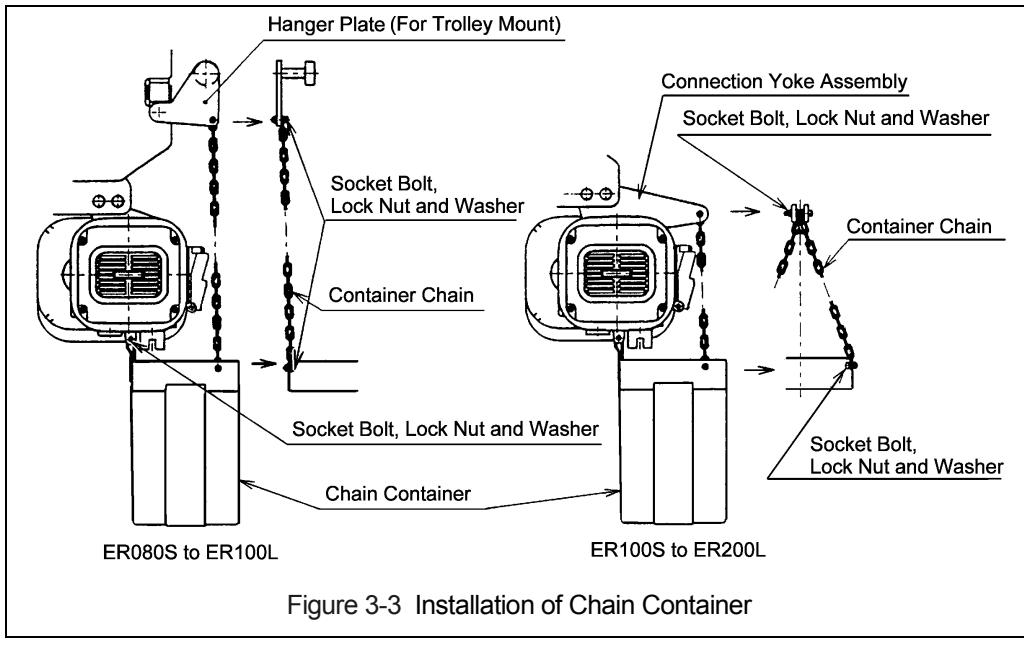

Figure 3-3 Installation of Chain Container
3.2.3 When the optional canvas chain container(s) is used, unfold it fully and install it on the hoist body(ies) as shown in Figure 3-3. In this case the free end of the chain is not attached to the hoist body and the chain stopper is installed on the third link from the free end. To place the chain into the chain container(s), feed the chain into the chain container(s) beginning with the free end. Take care to avoid twisting or tangling the chain. NEVER put all the chain into the container(s) at once. Lumped or twisted chain may activate the down limit switch and stop the hoist during lowering.